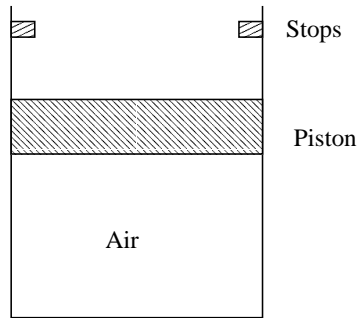

Figure 1: Schematic for Problem 2
2. Air is contained in a piston-cylinder assembly as shown in Figure 1. Initially, the piston is positioned as shown and is free to move. The external atmospheric pressure and the weight of the piston are held constant. The initial pressure of the air is 100 kPa, the initial volume is 1L, and the initial temperature is 300 K. The air is heated and causes the piston to move until it hits the stops. At this point, the volume of the air is 2L. It is heated further until its temperature reaches 900 K.